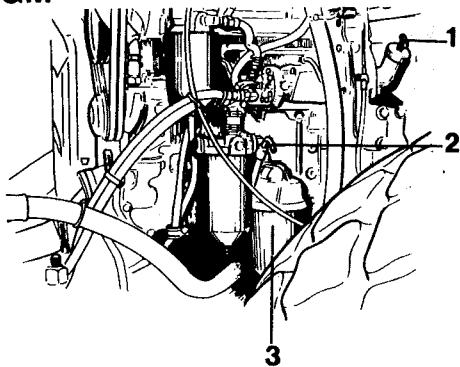

Fig 42 Engine
- 1 Clean the area around the drain plug (1) and then place a receptacle to hold at least 12 litres (3.2 US gallons) under the plug.
- 2 Clean the area around the oil filler cap (1 in Fig 42) and then remove the cap.
- 2 Check the engine oil level with the dipstick (2 in Fig 42). The level should be up to the FULL mark. Do not overfill, since this may cause damage to the crankshaft seals.
- 3 Refit the filler cap (1 in Fig 42). Tighten it firmly, ensuring that it seals satisfactorily.